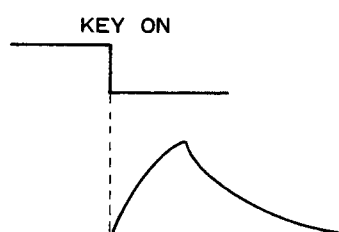

Fig. 14-1
- a) Set ATTACK (PVR17), DECAY (PVR18), and RELEASE (PVR20) at S, and SUSTAIN (PVR19) at "0". When a key is depressed, the waveform of Fig. 14-1 should develop at TP42 on the PN1 1/2 Circuit Board.